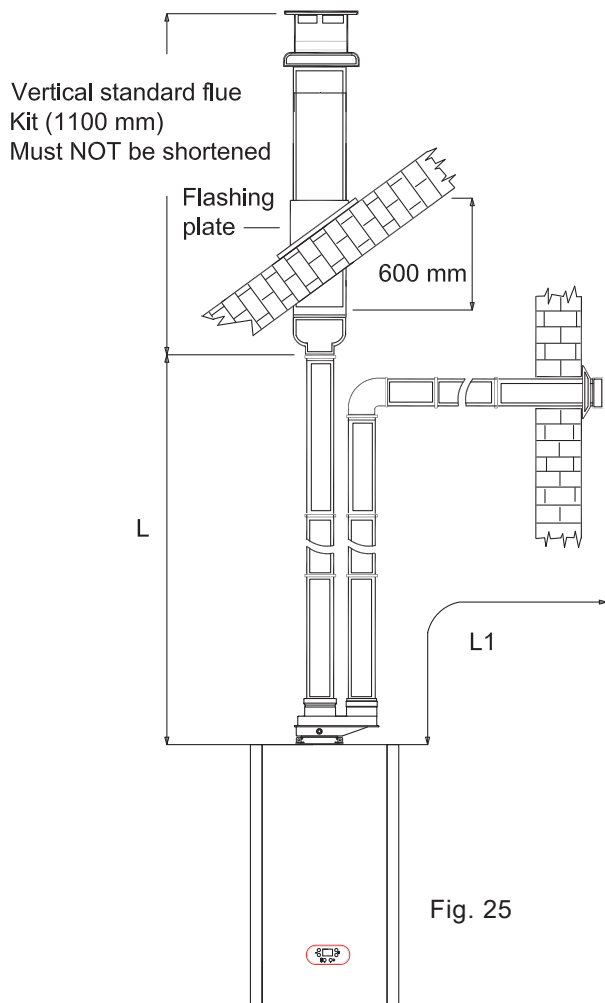

Fig. 25
**5.17 Exhaust/suction system with with two separate rated 80 dia. pipes exhaust on flat or sloping roof, suction from vertical wall (fig. 25).**